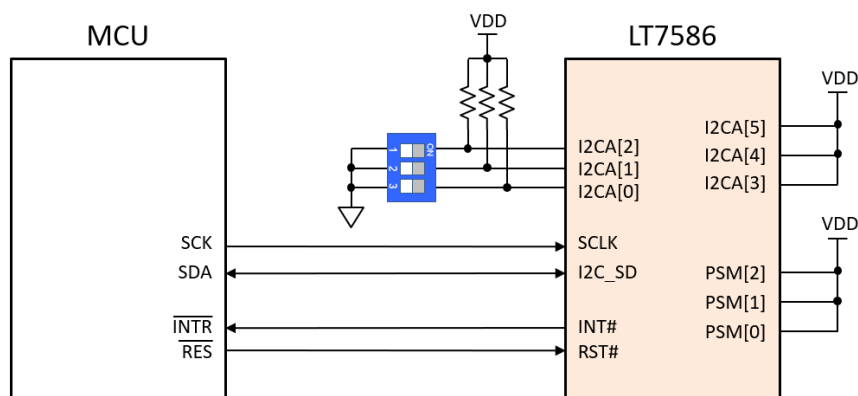

Figure 5-14: I2C Host Interface (Support continuous read mode)
- Continuous Read Mode: PSM = 111b, as shown in Figure 5-14. When nACK (ACK = 1) is received, the Host stops reading. In other words, when ACK is received (ACK = 0), the Host can read the next data.